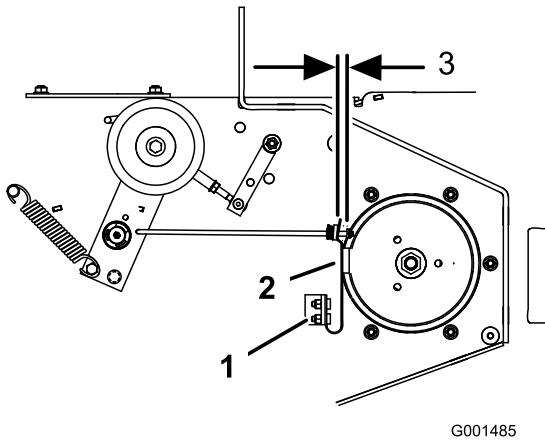

Figure 60
3. If necessary, adjust the spring mounting bolts so that the blade brake pad rubs against both sides of the pulley groove (Figure 60).
4. Adjust the nut at the end of the blade brake rod until there is 3 to 5 mm (1/8 to 3/16 inch) between the nut and spacer (Figure 60).